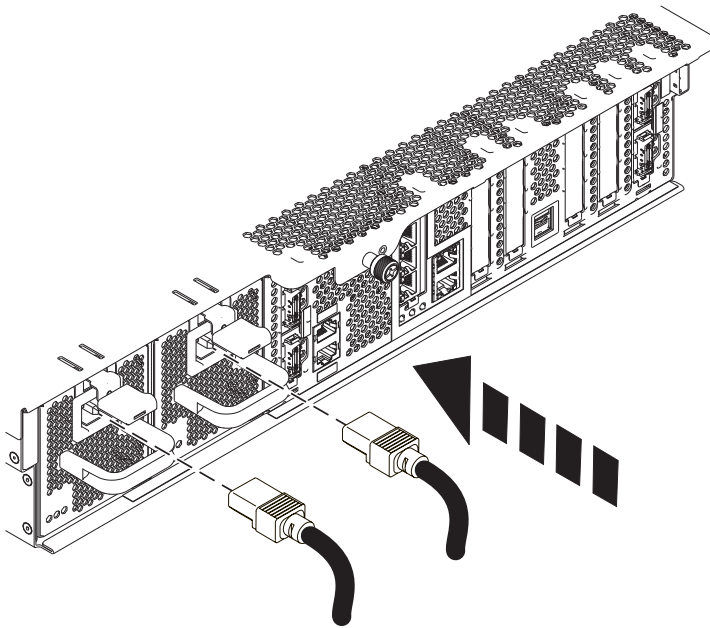

Figure 4. *Installing power cords*
- b. Connect all power cords to the unit you are servicing. See Figure 4.